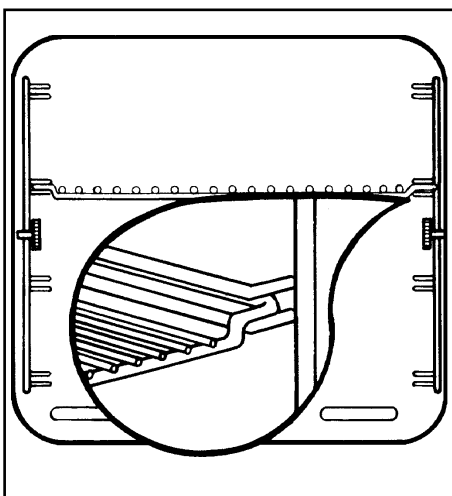

Fig. 5
**IMPORTANT: The anti-tip oven shelves must be positioned as shown in Fig. 5.**